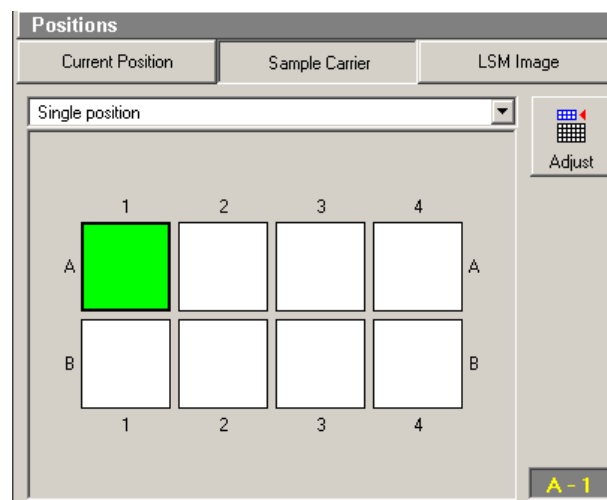

Fig. 4-56 Positions panel, sample carrier adjusted
- The sample select options pop up (Fig. 4-56).